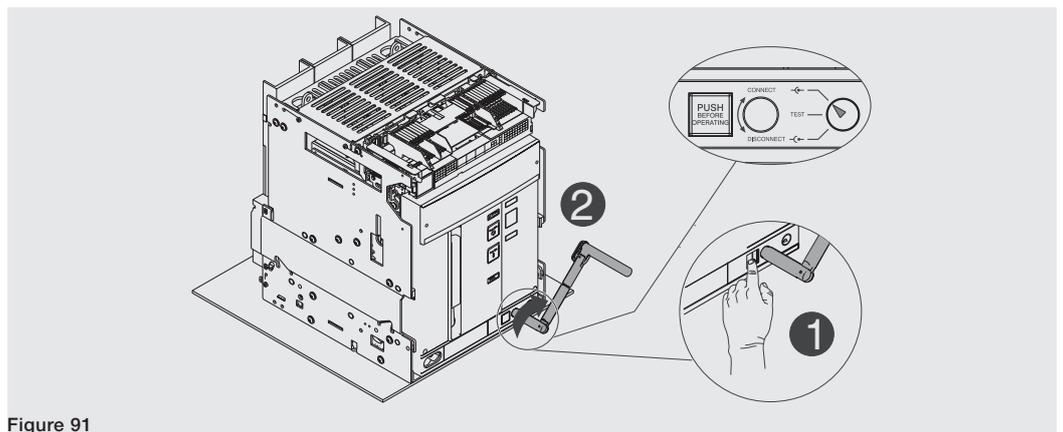

Figure 91
11. Press the lock button and rotate the crank clockwise until it comes out and the indicator shows that the circuit-breaker is in **CONNECT** position. See Figure 91.